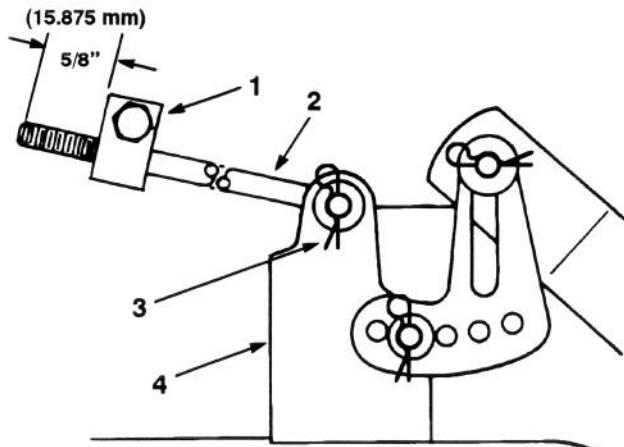

Figure 51
6. Measure the length of the rod extending out the front of the adjusting block on the sides of the chassis (Fig. 51). If the rod length is not $5/8$ " (15.875 mm), remove the hair pin cotter and washer from the end of the rod (Fig. 51), and turn the rod until the $5/8$ " (15.875 mm) dimension is obtained. Then install the end of the rod into the hole in the mower mount and secure in place with washer and hair pin cotter. Repeat this procedure on the opposite side of the mower.
8. Raise or lower the front of the mower by adjusting the length of the long rod and reinstalling it in the mower mount with the washer and hair pin cotter (Fig. 51). Adjust one side, then the other. After adjusting both rods, check the front-to-rear slope again. Continue to adjust the rods one turn at a time until the front of the mower is $1/8"$ to $3/8"$ (3.175 mm to 9.525 mm) lower than the rear of the mower.